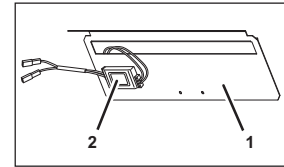

Fig. 37
4. Remove the voltage transformer (Fig. 37/2) from the retaining plate (Fig. 37/1).
5. Apply Velcro tape to the new voltage transformer (Fig. 37/2).
6. Position the voltage transformer (Fig. 37/2) on the retaining plate (Fig. 37/1).
7. Press the voltage transformer (Fig. 37/2) into the retaining plate (Fig. 37/1).